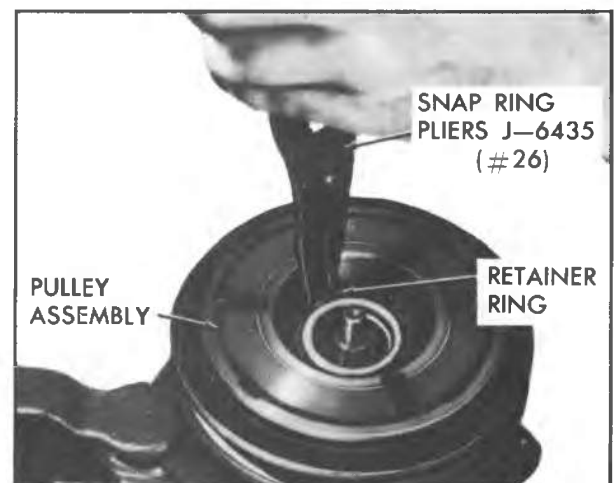

Fig. 10--Removing Pulley Retainer Ring
2. Remove pulley retainer ring using Snap-Ring Pliers J-6435 (#26), Fig. 10.